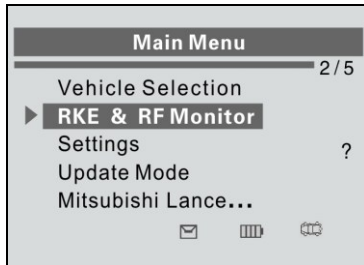

Figure 4.18
- 1) Use the **UP/DOWN SCROLL** button to select **RKE & RF Monitor** from **Main Menu** (Figure 4.18), and press the **Y** button to confirm.